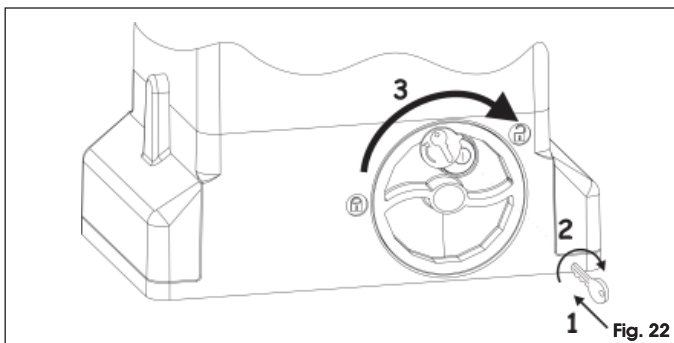

Fig. 22
1. Insert the key provided and turn it clockwise as shown in Fig. 22 ref. 1 and 2.
2. Turn the release system clockwise, until the mechanical stop is reached, Fig. 22 ref. 3.